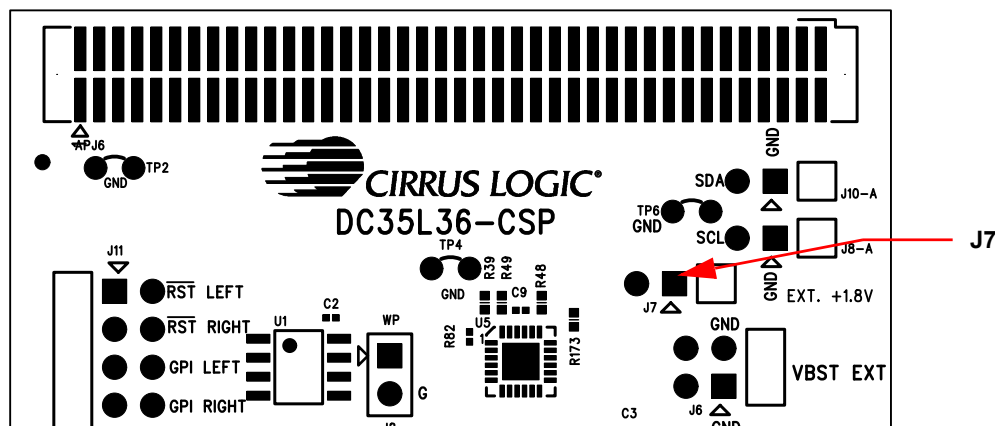

Figure 2-3. J7 location (external 1.8-V supply)
3. Connect the external 1.8-V power source to connector J7 (Fig. 2-3). The external power supply must provide at least 100 mA.